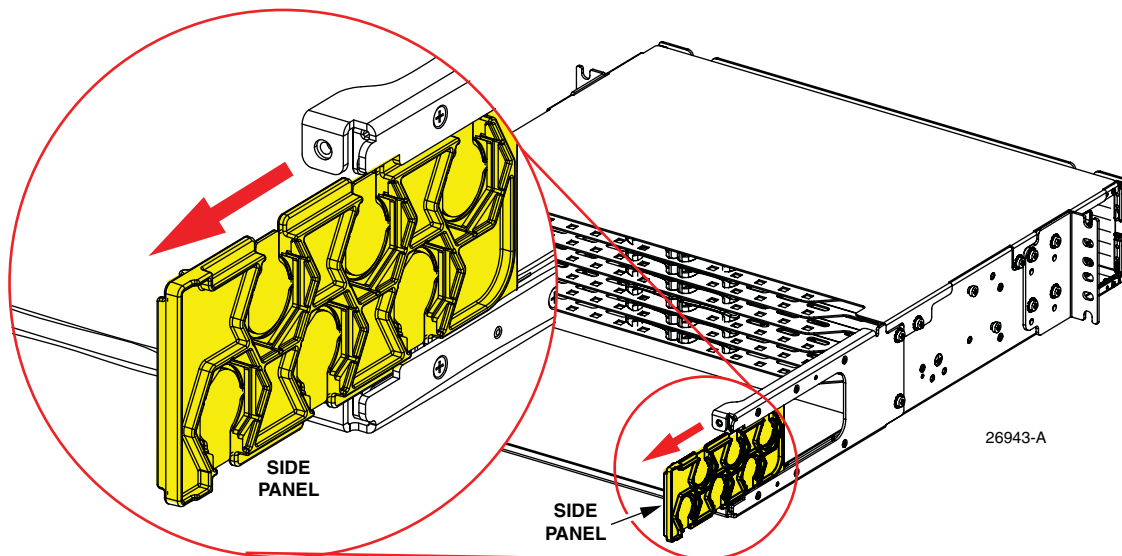

Figure 19. Sliding Out Side Plate
- Slide out the side plate on side where cable will be installed as shown in Figure 19.